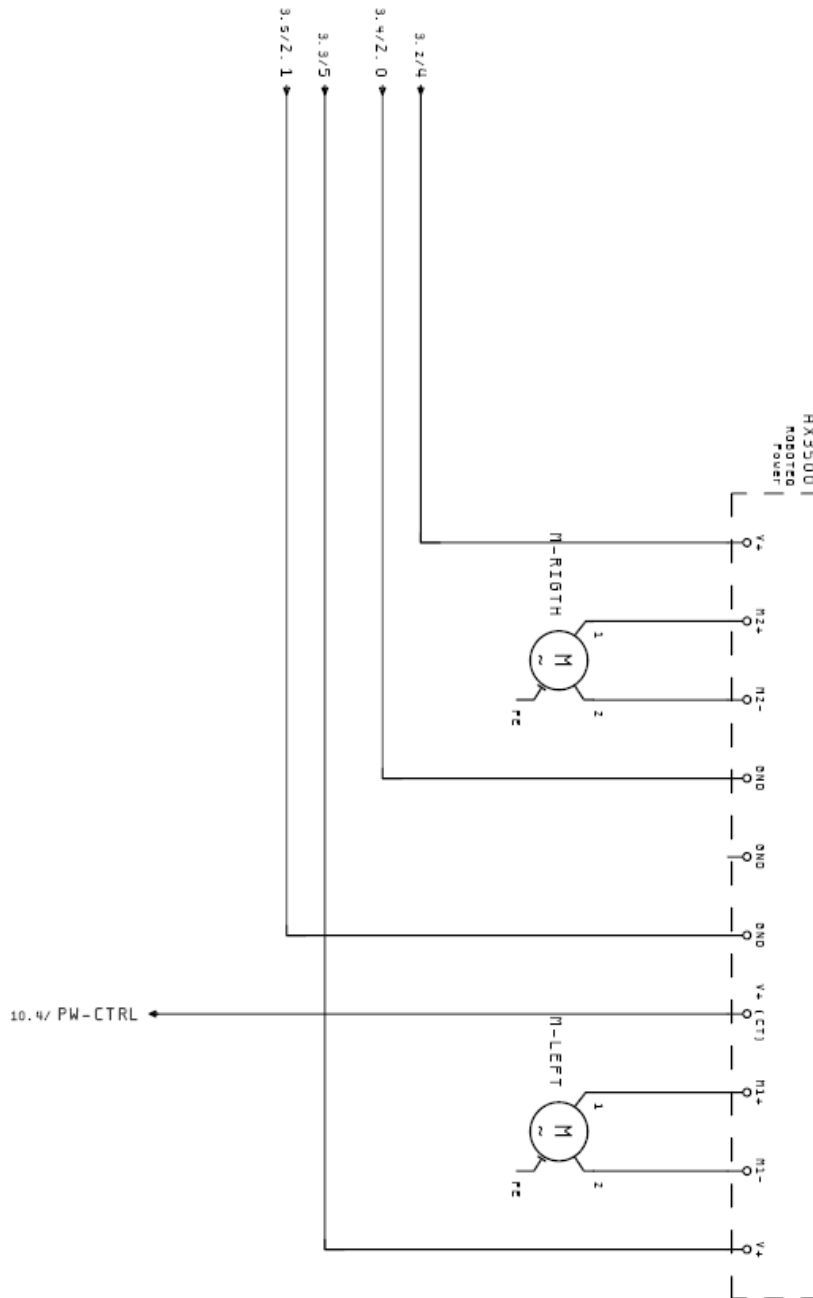

Figure 29: Driver Power Drawing
- Figure 29 *Driver Power Drawing*